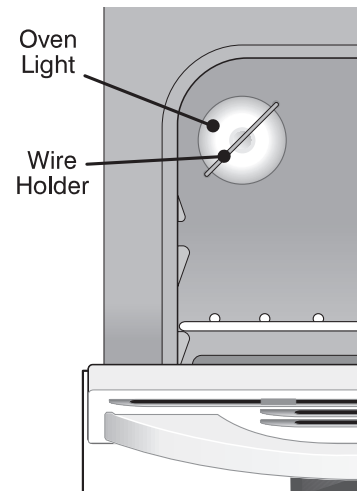

Fig.1
2. Open oven door for access to interior oven light. Once located, press wire holder to one side to release the glass shield (See Fig.1).
1. Open oven door completely (horizontal with floor - See Fig. 1).